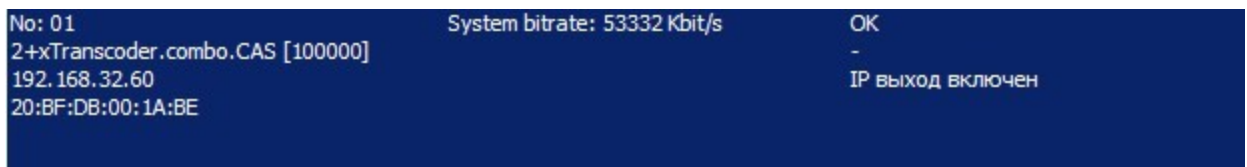

Fig. 3.10
2. Click OK and wait while the device switches from the "Encoder" to "Transcoder" mode. You can see the progress in the status bar of the DVBT toolkit (Fig.3.10). Wait until the color of the device in the system becomes green.